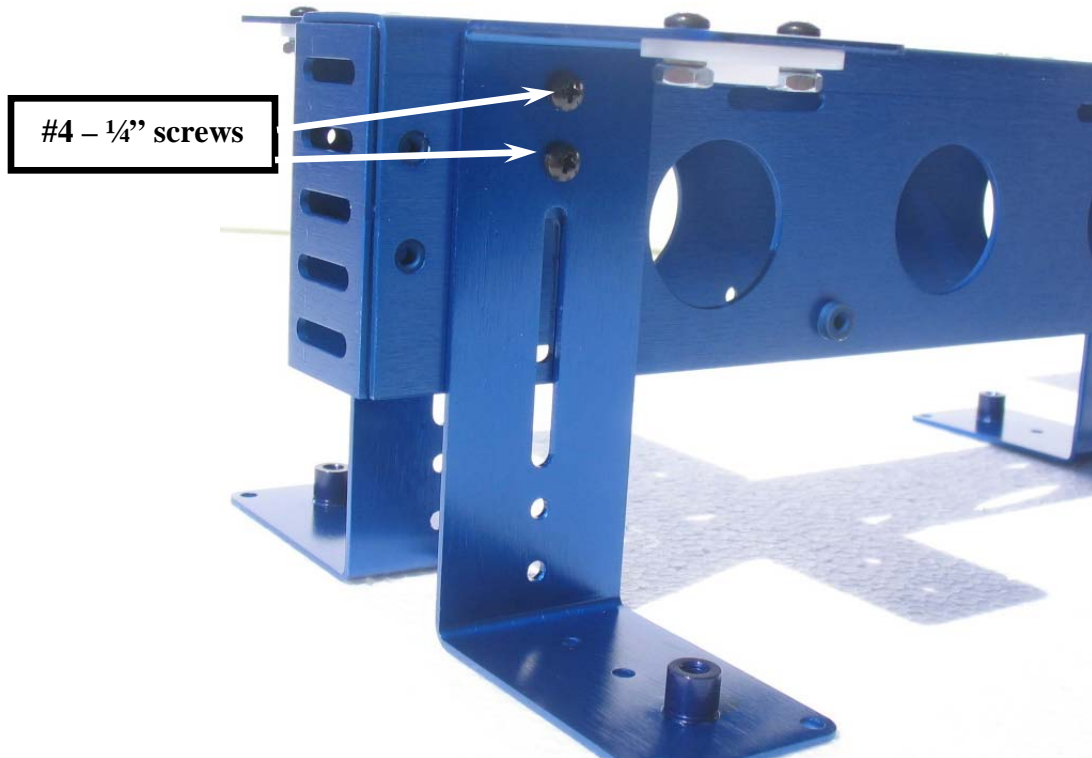

Figure 17a
17. Using (2) #4-1/4" screws, lock washers and nuts, install the servo bracket to the 2 holes located near the top of the channel as shown in figure 17a. Ensure that servo bracket is installed evenly with the top of the channel before tightening the screws firmly.